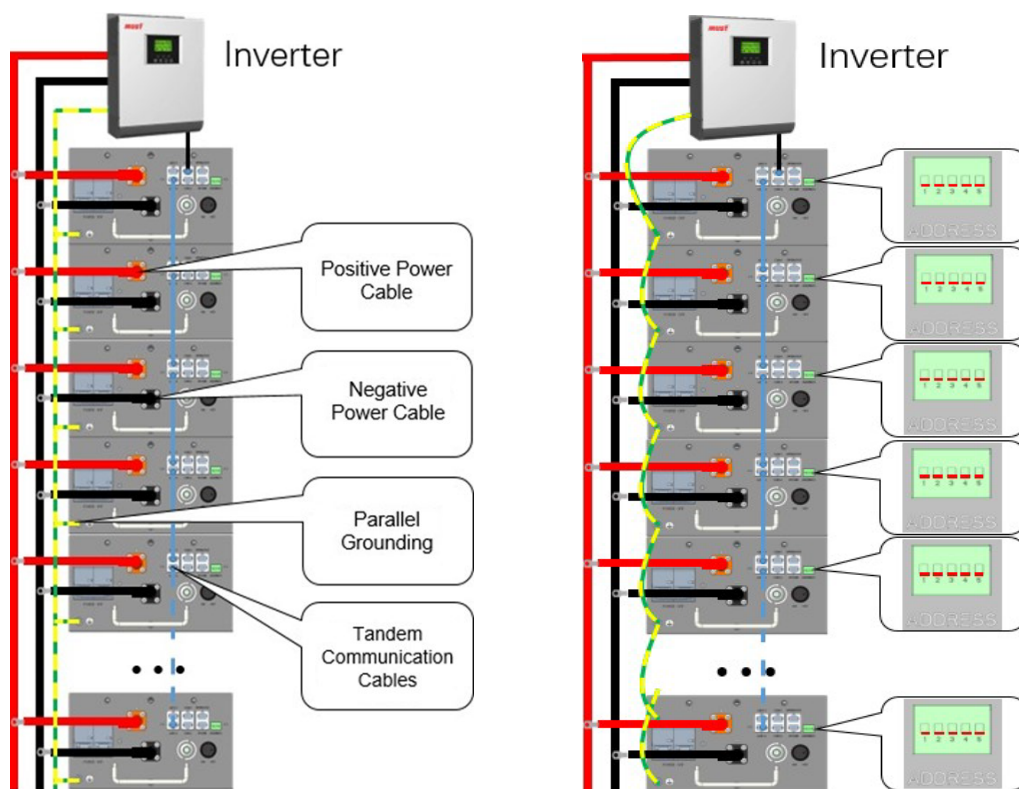

Figure 6 - Single battery cluster cable connections and DIP switch addresses, drawing is for reference only.
- Refer to Figure 6 as a reference for connections in the following steps.
STEP 2:	Ensure all DIP switches of the single cluster battery modules are OFF as shown in Figure 6.